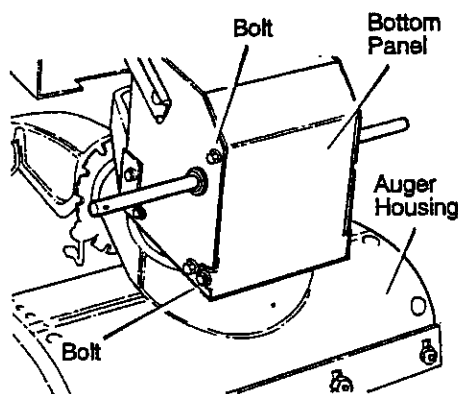

Figure 27
2. Loosen the bolts on each side of the bottom panel (see Figure 27).
18. Install the bottom panel (see Figure 27).
13. Install the bottom panel (see Figure 27).